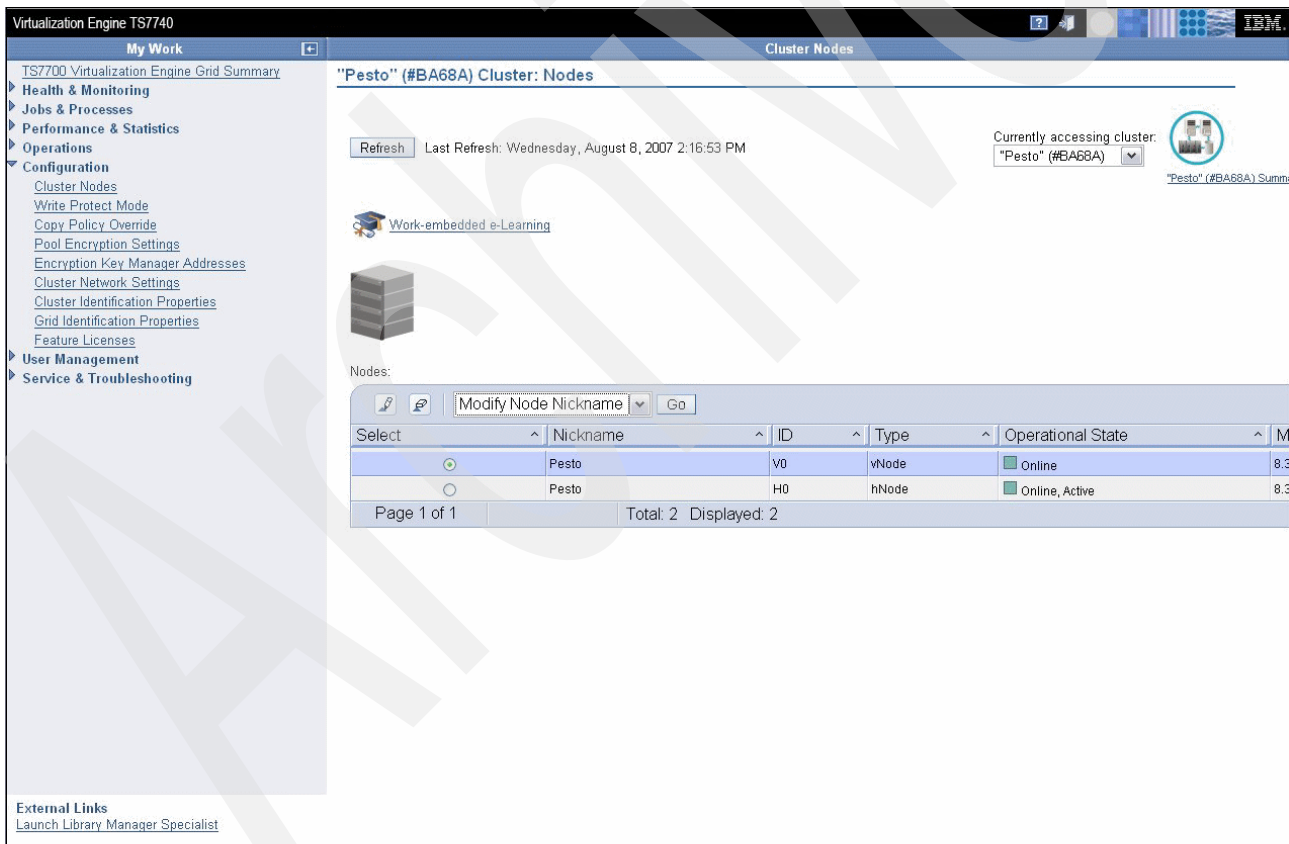
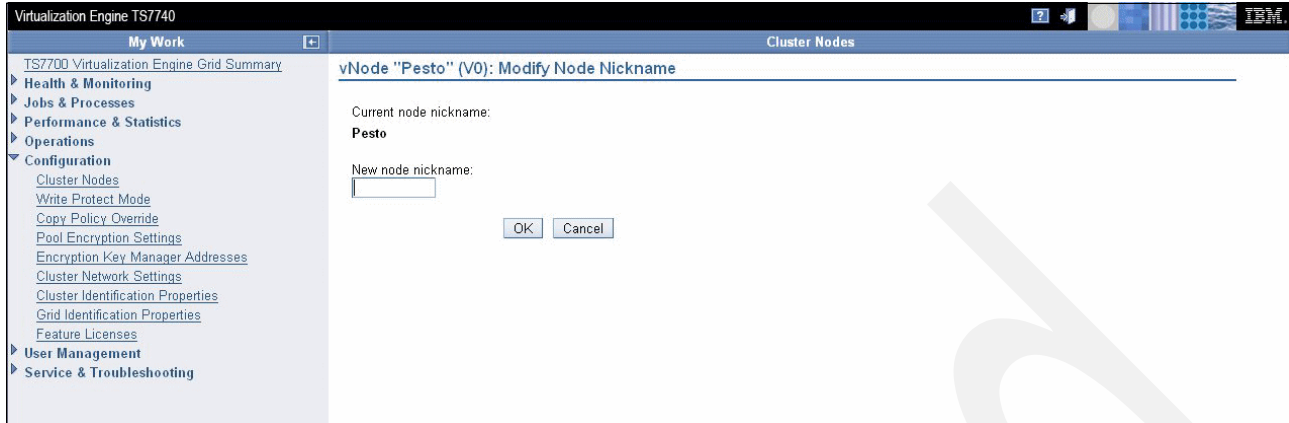

Figure 7-31 TS7700 Management Interface Cluster Node, Modify Node Nickname Step 1
Figure 7-32 TS7700 Management Interface Cluster Node, Modify Node Nickname Step 2
- Modify nickname** Modify the nickname of the selected node. See Figure 7-31 on page 344 and Figure 7-32 on page 345 for an example.